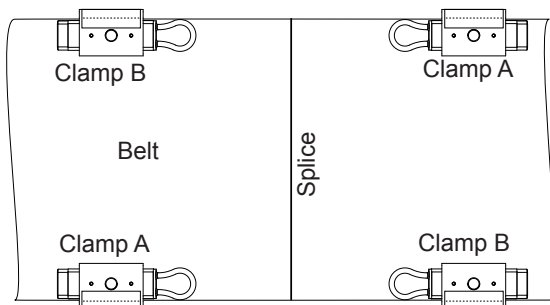

Fig. 1
5. With a soft hammer, initially engage clamp by striking the impact plate; 2 blows. Repeat this process until all four clamps are in the proper position (See Fig. 1).